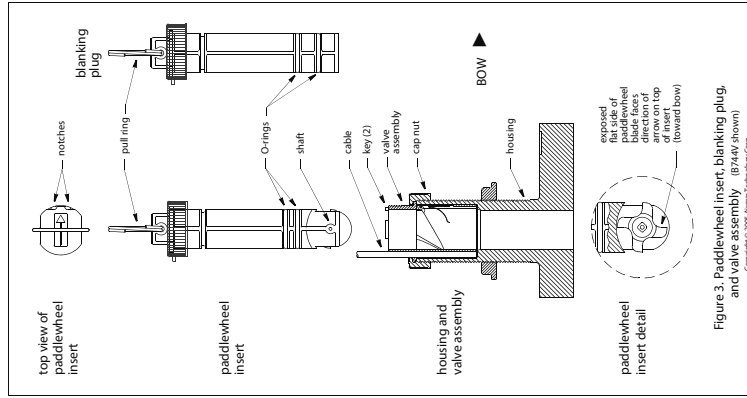

Figure 3. Paddlewheel insert, blanking plug, and valve assembly (B744V/VL shown)
1. After the sealant cures, inspect the O-rings on the paddlewheel insert (replace if necessary) and lubricate them with the silicone lubricant supplied (Figure 3). The O-rings must be intact and well lubricated to make a watertight seal.
The multisensor incorporates a self-closing valve which minimizes the flow of water into the vessel when the paddlewheel insert is removed (Figure 3). The curved flap valve is activated by both a spring and water pressure. Water pushes the flap valve upward to block the opening, so there is no gush of water into the boat.
1. On the blanking plug, inspect the O-rings (replace if necessary) and lubricate them with silicone lubricant or petroleum jelly (Vaseline®) (Figure 3). The O-rings must be intact and well lubricated to make a watertight seal.
4. Slide the blanking plug into the housing. Seat it into place with a pushing twisting motion until the keys fit into the notches (Figure 3). Screw the INSERT nut in place and hand-tighten only. Do not over tighten.
1. On the blanking plug, inspect the O-rings (replace if necessary) and lubricate them with silicone lubricant or petroleum jelly (Figure 3). The O-rings must be intact and well lubricated to make a watertight seal.
3. Separate the paddlewheel insert from the valve assembly by unscrewing the INSERT nut (Figure 3). Grasp the pull ring and pull slowly upward.
5. To reinstall the valve assembly, inspect the O-rings on the paddlewheel insert (replace if necessary) and lubricate them with silicone lubricant or petroleum jelly (Figure 3). The O-rings must be intact and well lubricated to make a watertight seal.
1. Using the new paddlewheel shaft, push out the old shaft about 6mm (1/4"). With pliers, remove the old shaft (Figure 3).